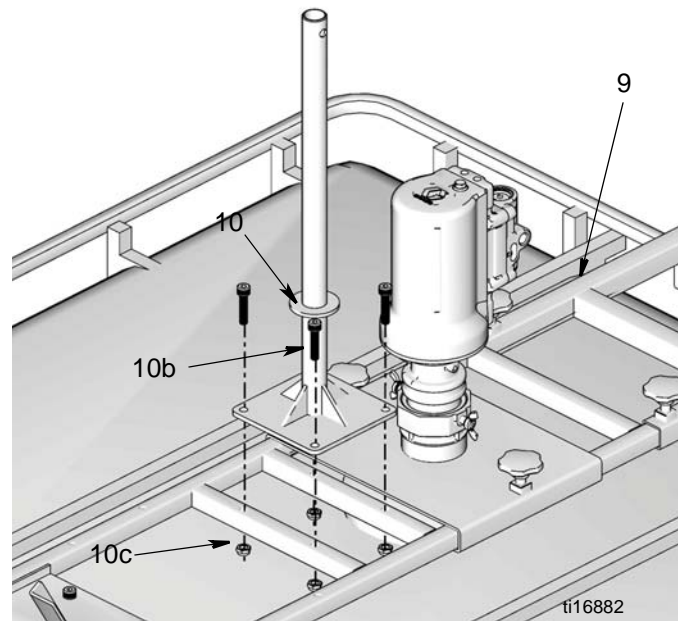

FIG. 15
- Install the reel bracket (10) to the top bracket (9). Secure in place using the 4 screws (10b) and nuts (10c) (FIG. 15).
- Install dispense device (12) to end of hose (FIG. 15). Tighten fitting securely.